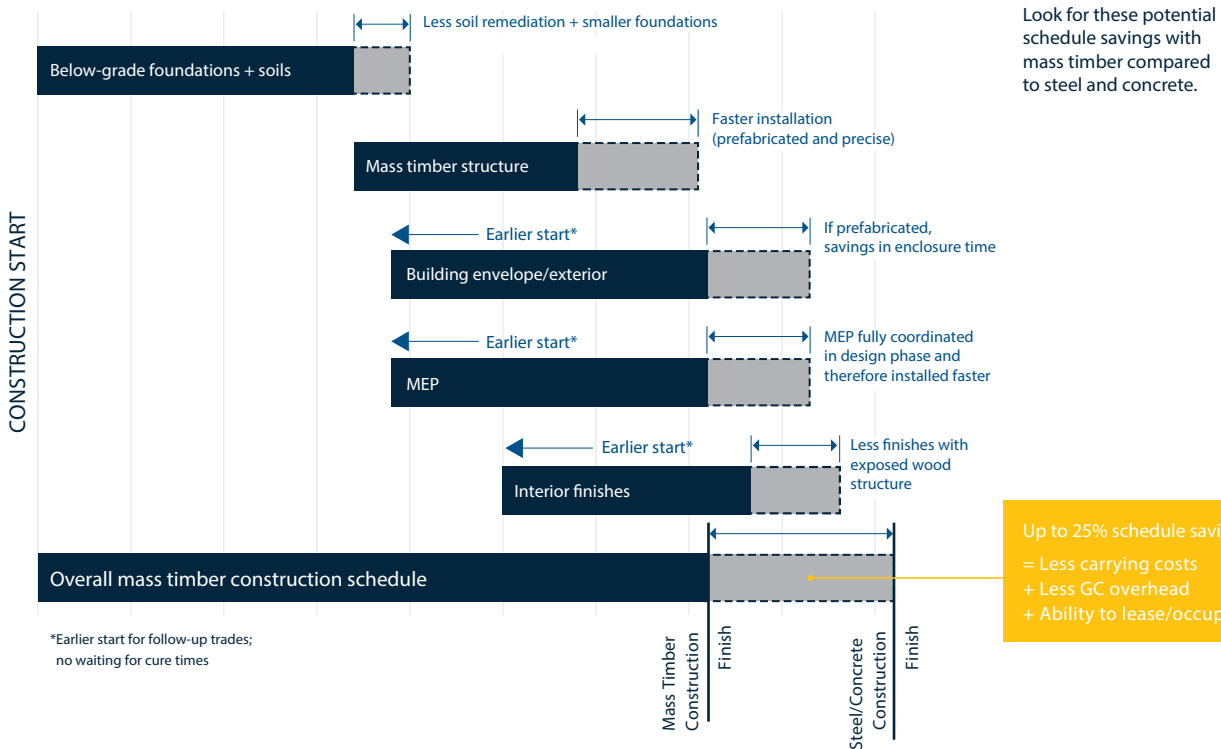

FIGURE 1:
- Compared to traditional practices, where steel bar reinforcing is manually tied on-site, forms and false work are constructed, and concrete is poured and left to set and strengthen, mass timber solutions can accelerate production schedules by as much as 25% (see Figure 1).